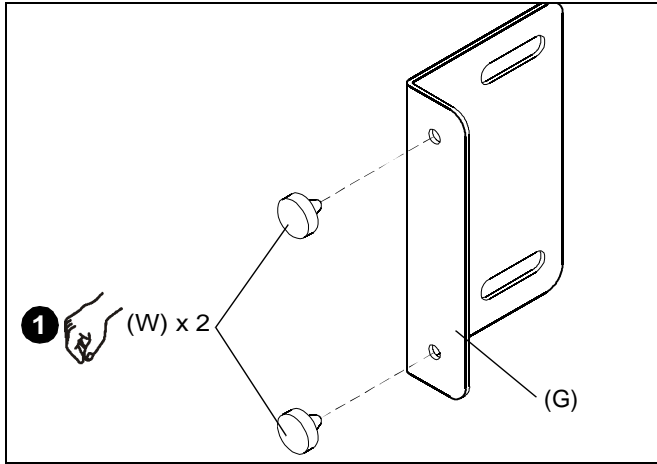

Figure 3
1. Attach two rubber bumpers (W) to lower art support bracket (G). (See Figure 3)